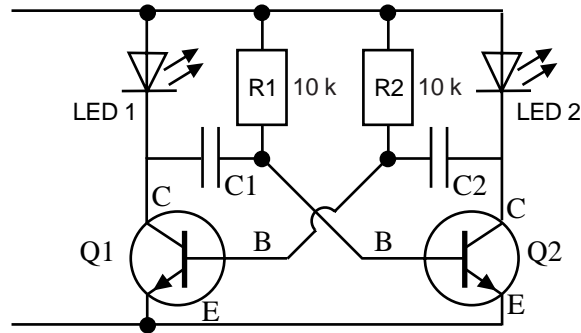

Figure 20
- iii. The electronic circuit shown above in Figure 20 has a digital output signal. Draw, in the space below, a waveform which represents a digital signal.